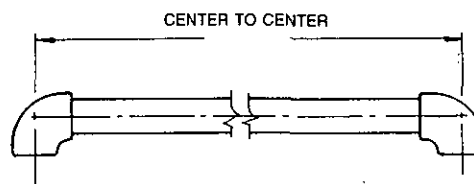

FIGURE 64
5. Pipe lengths are measured from center of fitting to center of fitting. See Figure 64.